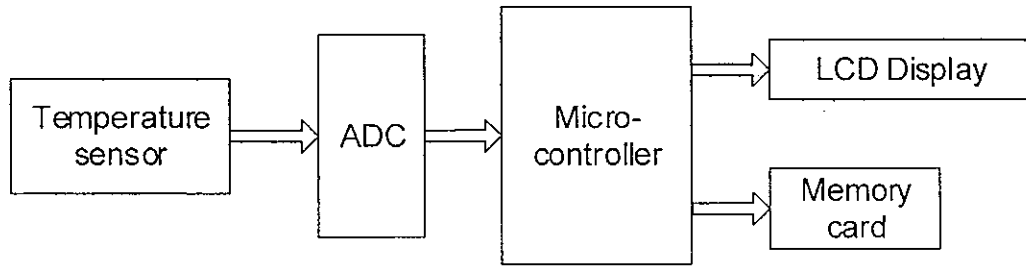

Figure 3.1
- (b) The ADC in Question 3.(a) is used in the design of a microcontroller-based temperature monitoring system as shown in Figure 3.1. The measurement range of the temperature sensor is from -20°C to 150°C . Answer the following: